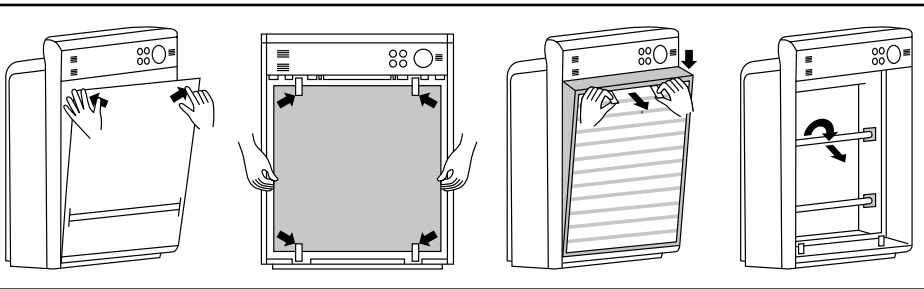

Fig. 4: Dismantling
- 1 Front cover (5):** Press on the top right and left-hand corners of the cover (5) to release the locking mechanism. Then slide up the cover (5) to remove.
- 2 Prefilter (7):** Open the catches in the direction shown in Fig. 4 to remove the prefilter (7).
- 3 Main filter (8):** Grasp the two straps at the top to pull out the filter (8).
- 4 UV tubes (9):** Carefully rotate the tubes (9) either clockwise or anticlockwise until the connections can be seen through the openings of the holders. Now remove the tubes (9) from their holders. Only grasp the tubes (9) by the ceramic endpieces and wear gloves to do so.